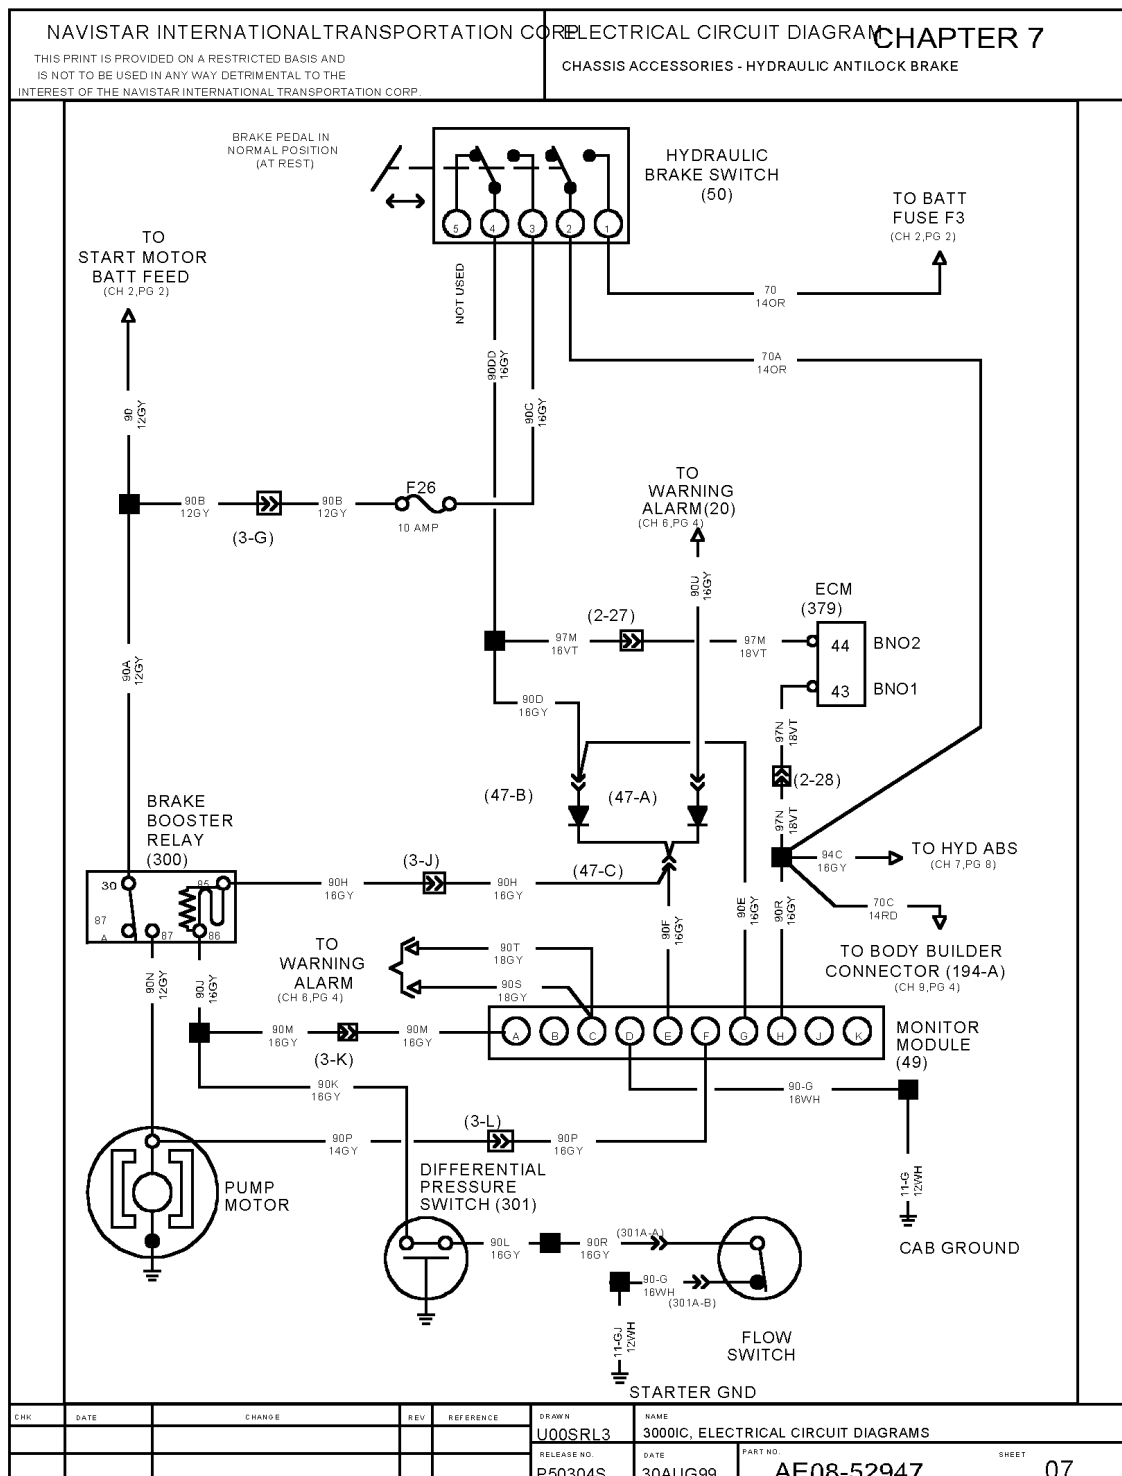

Figure 1 Brake Switch Circuit Before Revision
3. Remove the connector lock and remove the four circuits (90DD, 90C, 70A and 70) from the connector (Figure 1).
9. Locate the splice of circuits 90DD, 90D, and 97M and splice a 16AWG wire of sufficient length to reach and splice to harness 2027580C91 wire labeled ignition (relay terminal 1). Refer to Figures 1, 2, and 3.
13. Splice 5 inches of 14 ga. wire to circuit 97DK, route this circuit to fuse F26 and connect it to the fuse with circuit 90C (Figure 1).